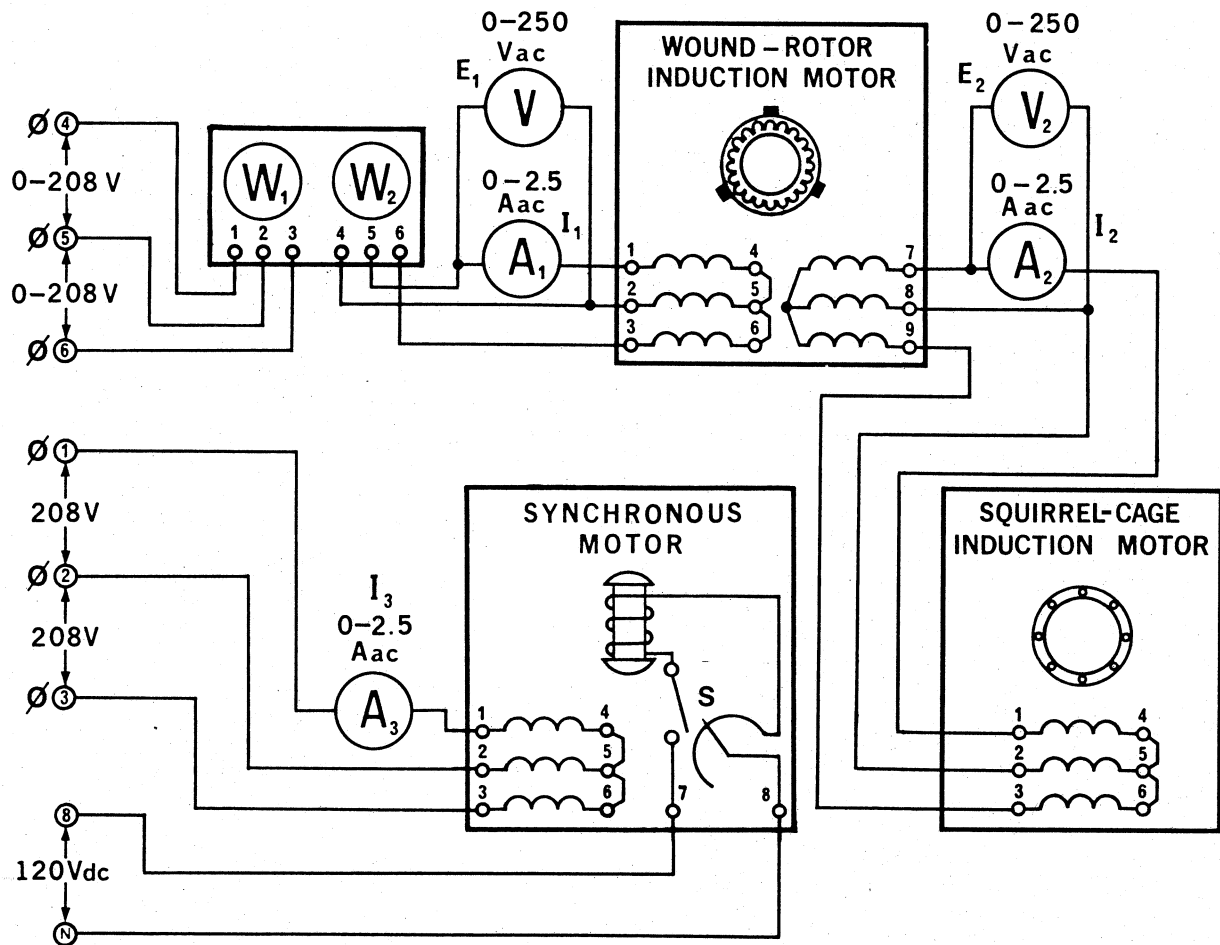

Figure 15-2.
- 6. Using your Four-Pole Squirrel-Cage Induction Motor, replace the delta connected resistance load with the wye-connected motor load as shown in Figure 15-2. Do not disturb any of your circuit wiring.